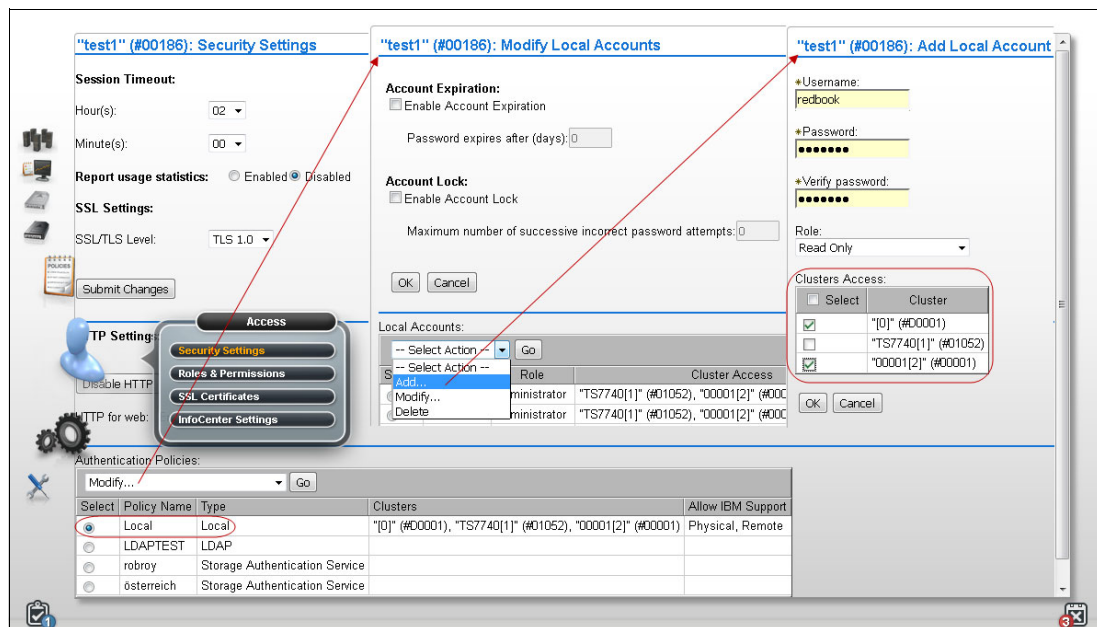

Figure 9-103 Creating a new local user
Figure 9-103 shows the sequence of creating a new user. It is used for managing users with the Local Authentication Policy method.
5. Select **Modify** from the Select Action menu and click **Go**. See Figure 9-103 for the Modify Local Accounts options.